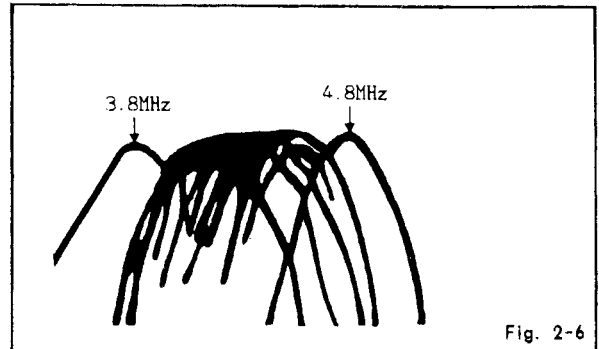

Fig. 2-6
2. Connect TP4001 to the input terminal on the spectrum analyzer, then adjust 3.8MHz and 4.8MHz as shown in Fig. 2-6 with VR4001 and VR4002.